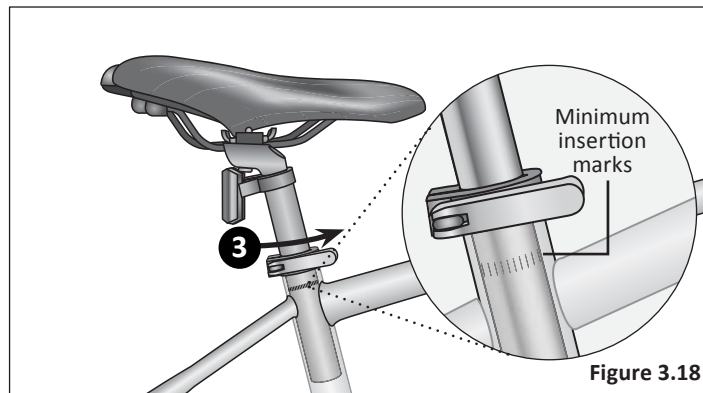

Figure 3.18
- 3 Close the quick-release lever and lock the seat in place. If there is not enough pressure to hold the seat in place open the quick-release lever. With one hand on the quick-release lever and one hand on the adjustment nut, start to hand tighten the adjustment nut until you start to feel some resistance against the seat clamp post. **Do not** attempt to tighten by turning the quick-release lever. The quick-release lever is for closing, the adjustment nut is for adjusting the pressure. **Figure 3.18**